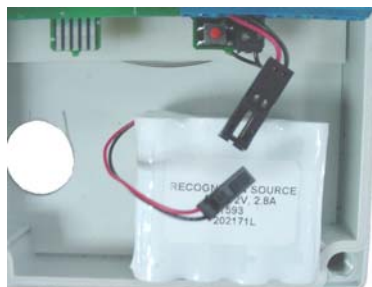

Figure 2-5 – Positioning the Battery Pack to Connect the Wires
- 2.4.6.2 Install the Battery Pack into the Transceiver Control Module enclosure using the Velcro provided (Figure 2-5).